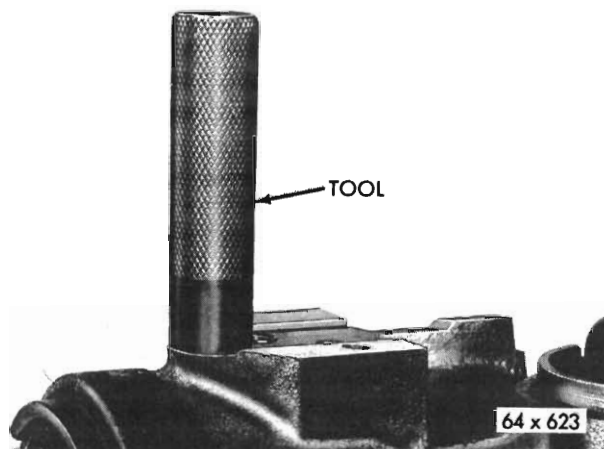

Fig. 23 – Aligning centre bearing spacer with steering valve
(53) Align the valve lever slot in the centre bearing spacer exactly with the steering valve hole in the gear housing, using Tool E19C30 (Fig. 23).
(54) Install the housing head tang washer to index with the groove in the housing. Install spanner nut and tighten to 125 to 200 lbs. ft.
(55) Set the power piston at the centre of travel and install the gear shaft and cover assembly